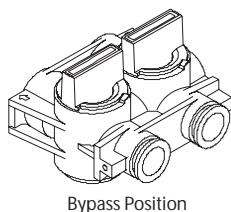

Figure 3
- Move the bypass valve handles to the bypass position. The valve handles should be perpendicular to the pipes (see figure 3).